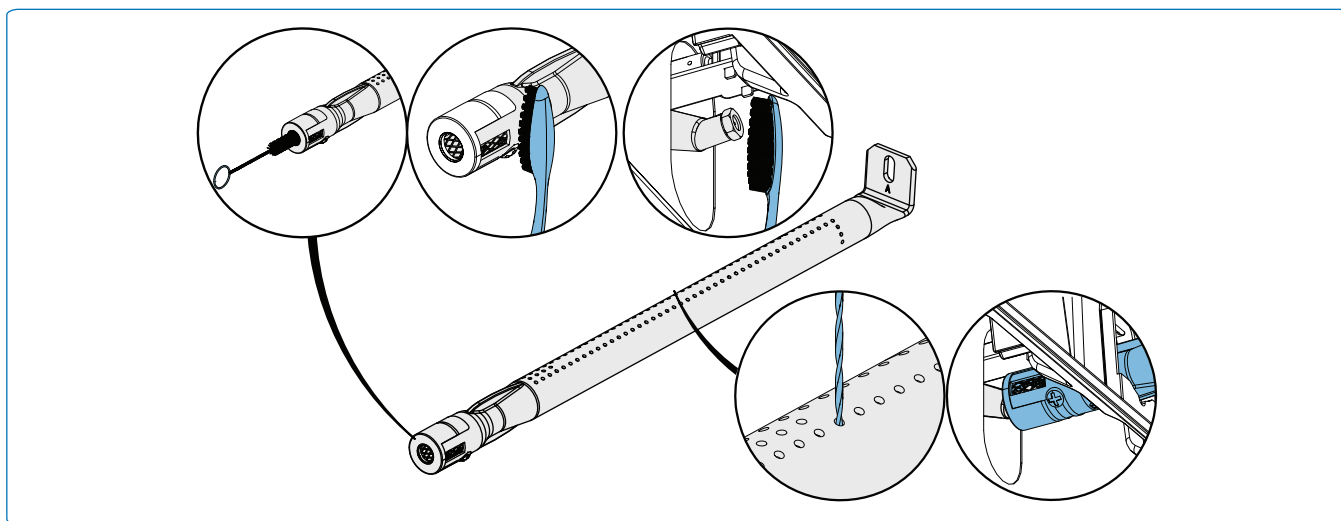

Fig. 19
1. Remove the screw (s) that attaches the burner to the back wall of the grill. Slide the burner back and upwards to remove. **(Fig.19)**.